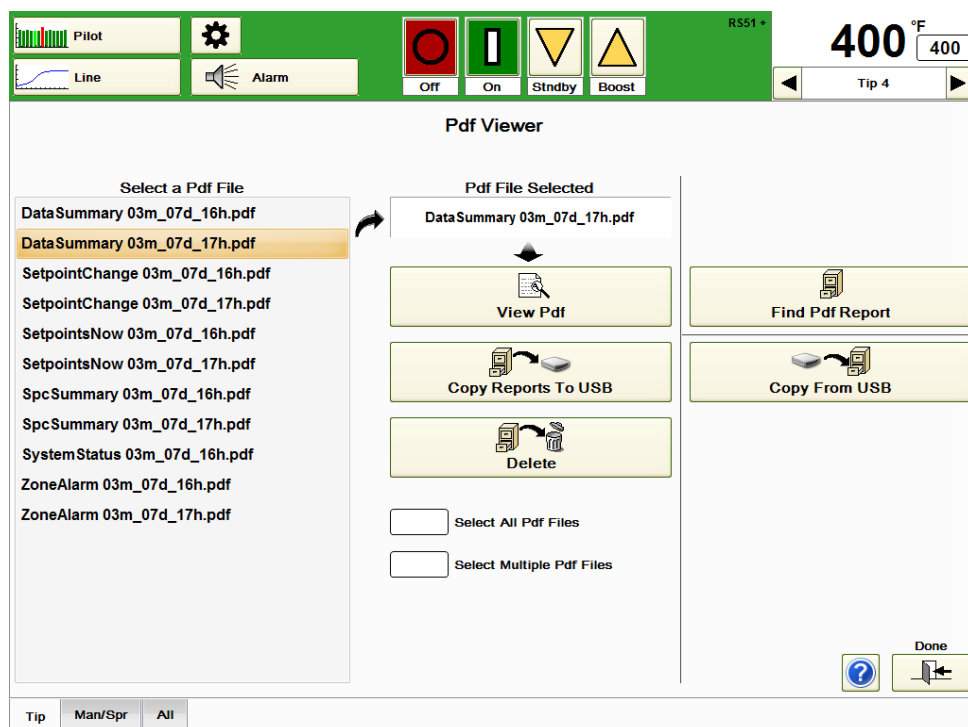

Figure 25b Pdf Viewer (Pdf Viewer)
View Pdf: Press this button to view the screen shown in Figure 25b.
- 1) Press the **Find Pdf Report** button shown in Figure 25b.